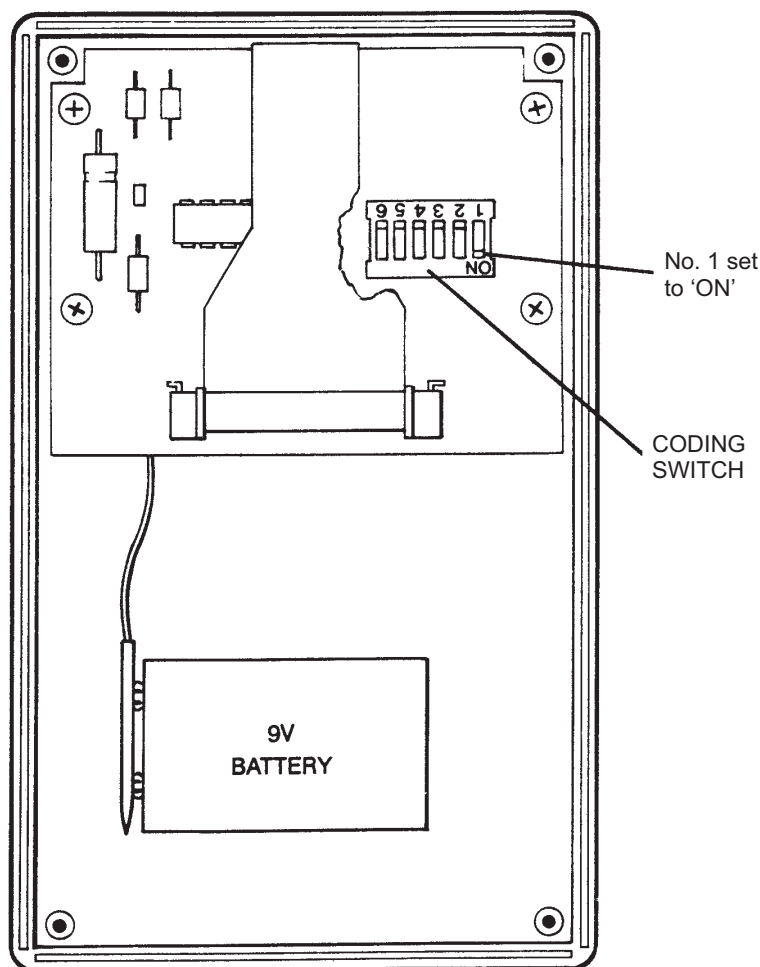

Fig. 4-1 'ADDRESS' SETTING FOR RHS 1 HANDSET
4. Locate the coding switch arrowed in Fig. 4-1. Normally switch No. 1 will be ON and switches 2-6 will be OFF.